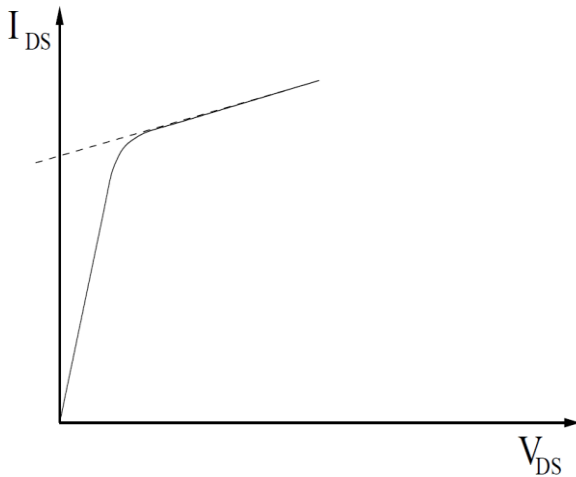

Figure 2: Measuring the channel length modulation factor.
The channel length modulation coefficient ( $\lambda$ ) is measured in the saturation region of the transistor. See Eq. 1.164 and 1.165 in the textbook. The drain current, in this region, is described by equation (3). If we assume a fixed  $V_{GS} > V_{th}$ , we can determine  $\lambda$  by looking at the sensitivity of  $I_{DS}$  for  $V_{DS} > V_{GS} - V_{th}$ . By interpolating the slope of the  $I_{DS}$  curve in saturation,  $\lambda$  can be determined by finding for which value of  $V_{DS}$  the extrapolated line intercepts the  $V_{DS}$ -axis. See figure 2.